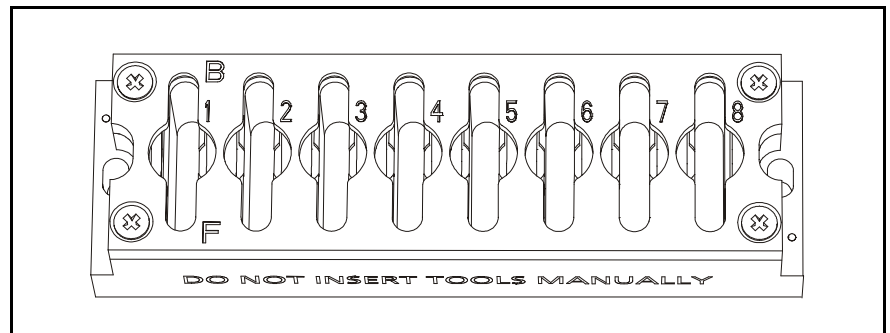

Figure 3-30. Standard tool bank
The first tool tube (position 1 in the HYDRA unit) fetches a tool from one of the two tool slots with index number 1 in the tool bank, see Figure 3-30. The second tool tube (position 2 in the HYDRA unit) fetches from one of the slots marked 2 and so on.
- Standard type for 500 T2 conveyor and 288, 468 and ML 3 – 6 tables, see Figure 3-30.